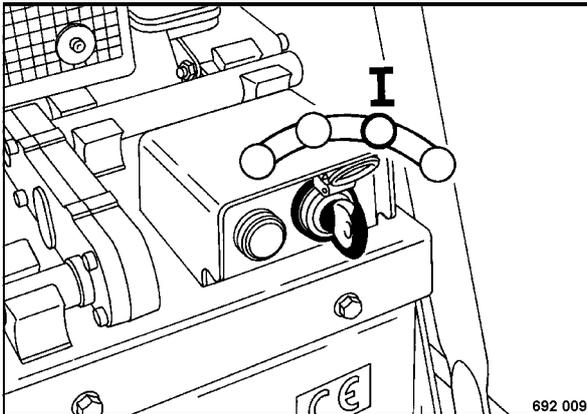

Fig. 10
- On machines with electric starter turn the ignition switch (Fig. 10) to position "I".